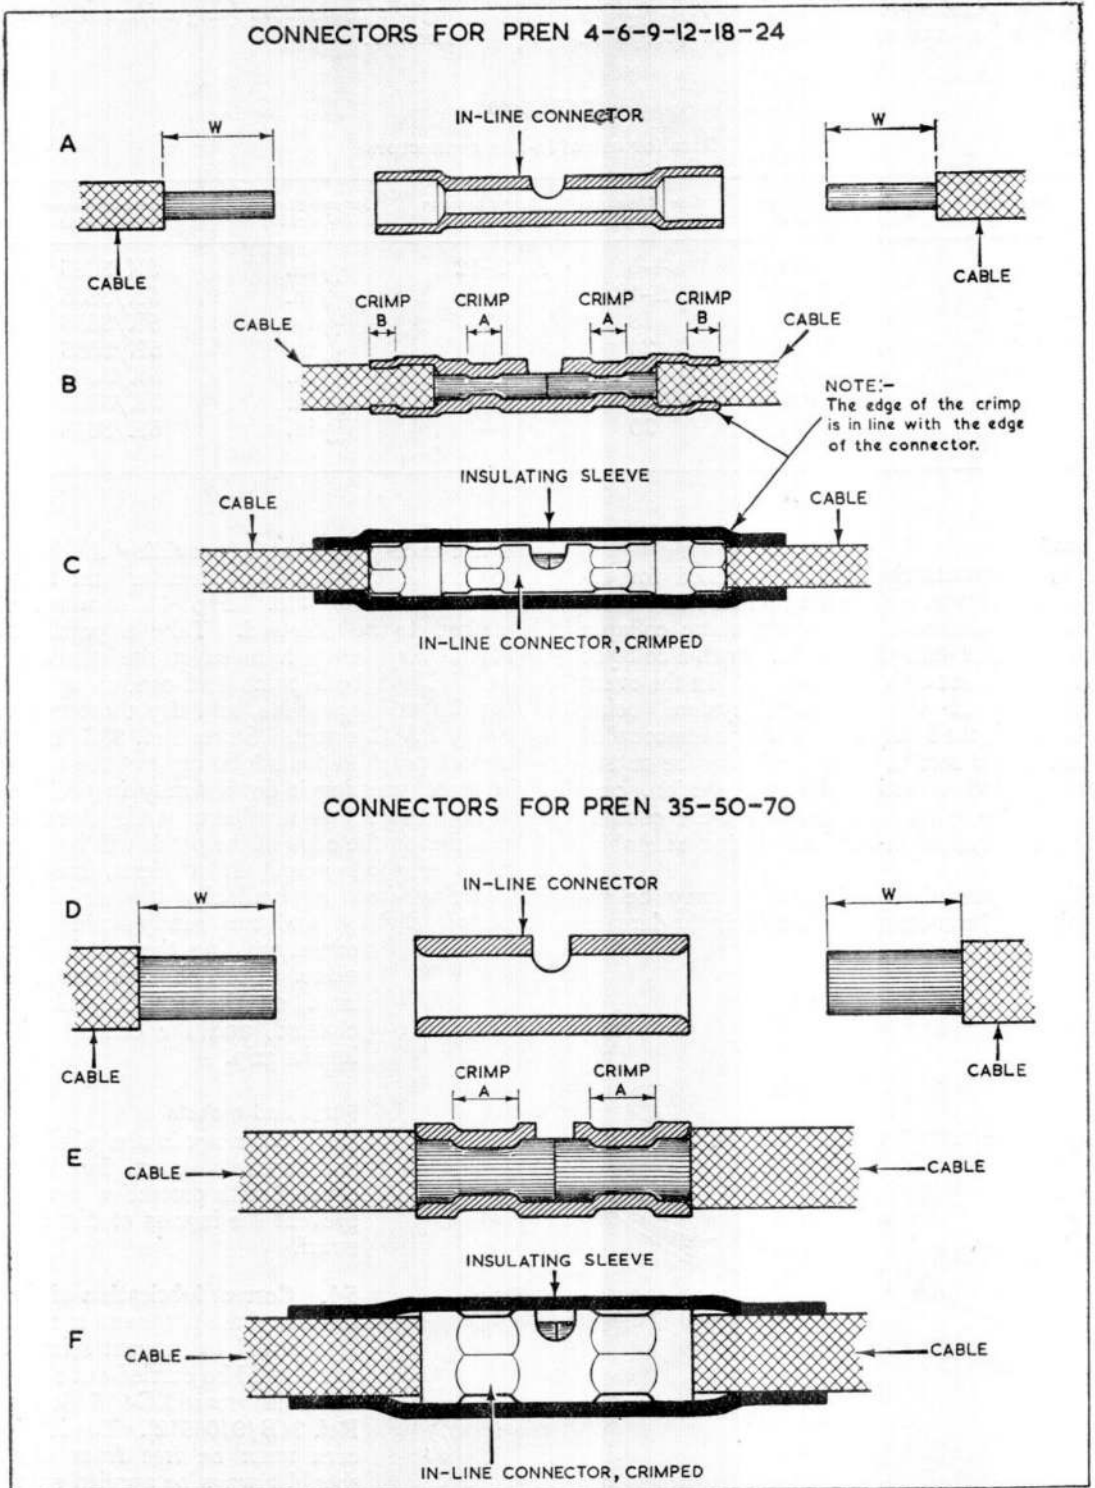

Fig. 10. Fitting of in-line connectors
49. The method of fitting these connectors is shown in stages in fig. 10, at A, B and C for Pren 4-6, 9-12, 18 and 24, and at D, E and F for Pren 35, 50 and 70. By referring to Table 10 the correct size of in-line connector, crimps to be used, dielectric stripping length, and correct insulating sleeve can be determined for a particular Pren cable size.
- (1) Cut out or off the damaged portion of the cable. If the damaged cable is in the centre of a cable run it may be possible to rejoin the existing cable ends, this being dependent upon the length of the damaged cable which has been removed. If this is not possible, a new length of cable of the same size may be inserted.
- (2) Strip off the dielectric from the cable ends to be joined to the required distance. Care should be taken not to damage or cut the strands of wire.
- (3) Fit the insulating sleeve over one end of the prepared cable using pliers (Stores Ref. IC/5862 or 5683).
- (4) Fit the prepared cable ends into the in-line hexagon connector. During this operation ensure that all the strands of wire are fitted into the inner barrel of the connector, and that the cable ends butt each other in the centre. This can be verified by looking through the inspection hole in the centre of the connector.
- (5) Make hexagon crimps at position A on the connector (fig. 10), using the heavy-duty pliers (Stores Ref. 5X/6463) for Pren cables 4-24, and the hydraulic crimping tool (Stores Ref. 3A/3042 or 3304) for Pren cables 35-70, ensuring that the correct size dies are fitted to the tool.
- (6) For Pren cables 4-24 make further crimps at position B on the connector by using the next size larger crimp dies in the hand tool. It is most important when making this dielectric crimp to ensure that the edge of the die is in line with the edge of the connector. This is to ensure the maximum effectiveness of this crimp in holding in the dielectric, and also to prevent the connector end belling out.
- (7) Inspect the new joint for the following:—
- (8) Reposition the insulating sleeve so that it fits over the in-line connector with an equal amount of the sleeve covering the dielectrics of the cables which have been joined together.
| Cable size (Pren) | In-line connector (Stores Ref.) | Size of hexagon crimp at A | Size of hexagon crimp at B | Stripping length (W, fig. 10) | Insulating sleeve (Stores Ref.) |